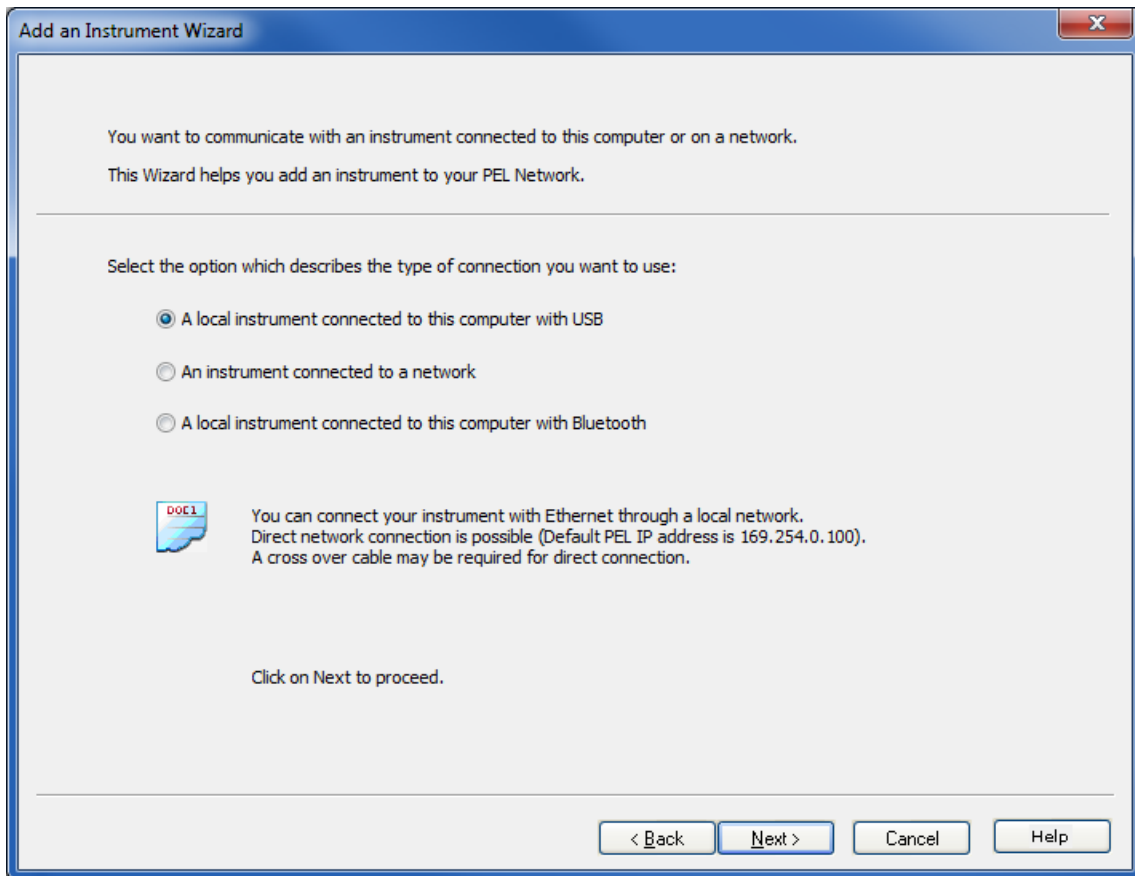

Figure 43
**Note:** The dialog boxes shown in this section correspond to the connection type chosen in Figure 43.